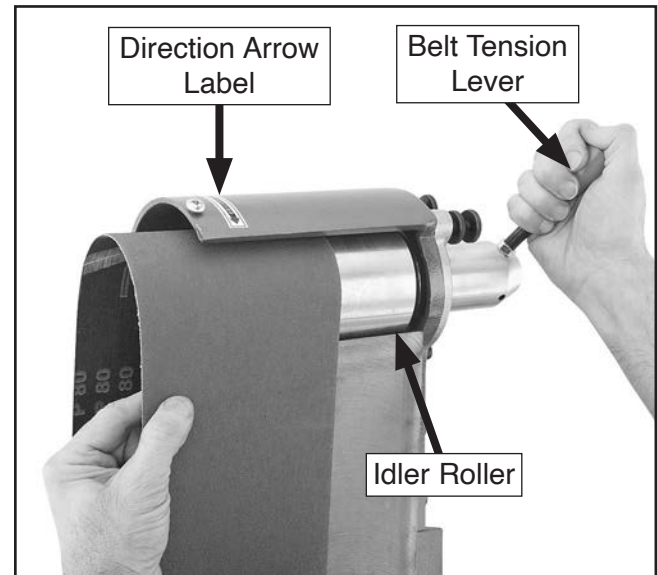

Figure 39. Moving belt tension lever down to remove sanding belt.
3. Move belt tension lever down, towards table (see **Figure 39**), to lower idler roller enough so you can slide sanding belt off of rollers.
Note: Typically, sanding belts have a direction arrow printed on inside. Match arrow direction with direction arrow on top of sanding belt housing (see **Figure 39**).